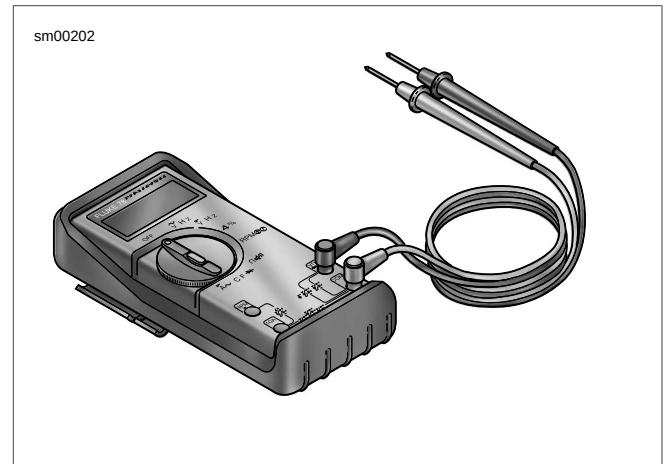

Figure 4-12. Fluke 78 Multimeter (DVOM)
1. See Figure 4-12. Connect digital volt/ohmmeter (DVOM) to wiring harness between the suspect connections. Set DVOM to read voltage changes.